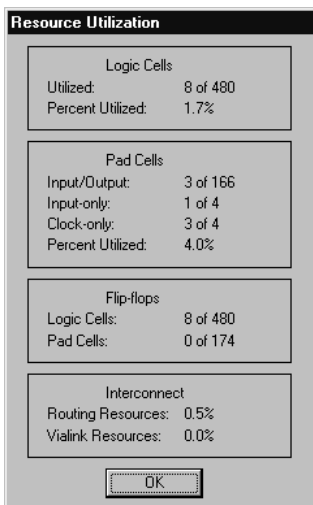

Figure 10 Typical Utilization dialog box
*Utilization* reports the number of cells of different types used in the design (Figure 10) as well as the number of logic, input-only, clock-only, and bidirectional cells. In addition it reports the routing and the via-link resource utilization.